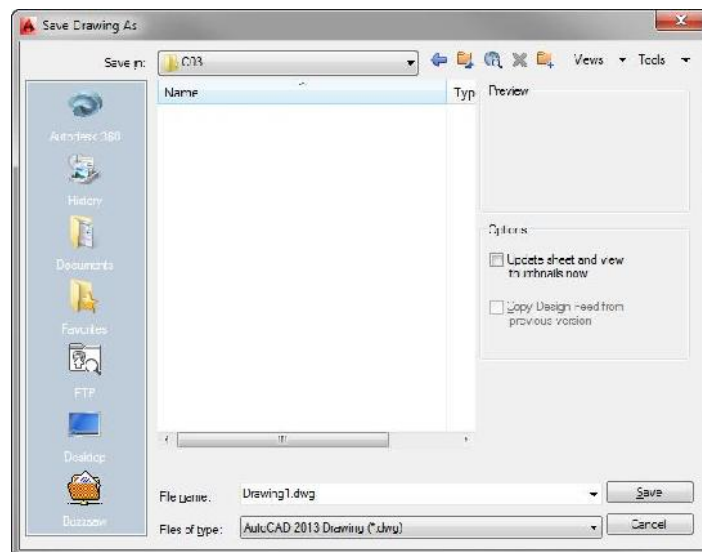

FIGURE 3.20: The Save Drawing As dialog box
1. In AutoCAD, click the Save button on the Quick Access toolbar or choose Save from the Application menu. Because you haven't named this file yet, the Save Drawing As dialog box opens, as shown in Figure 3.20.